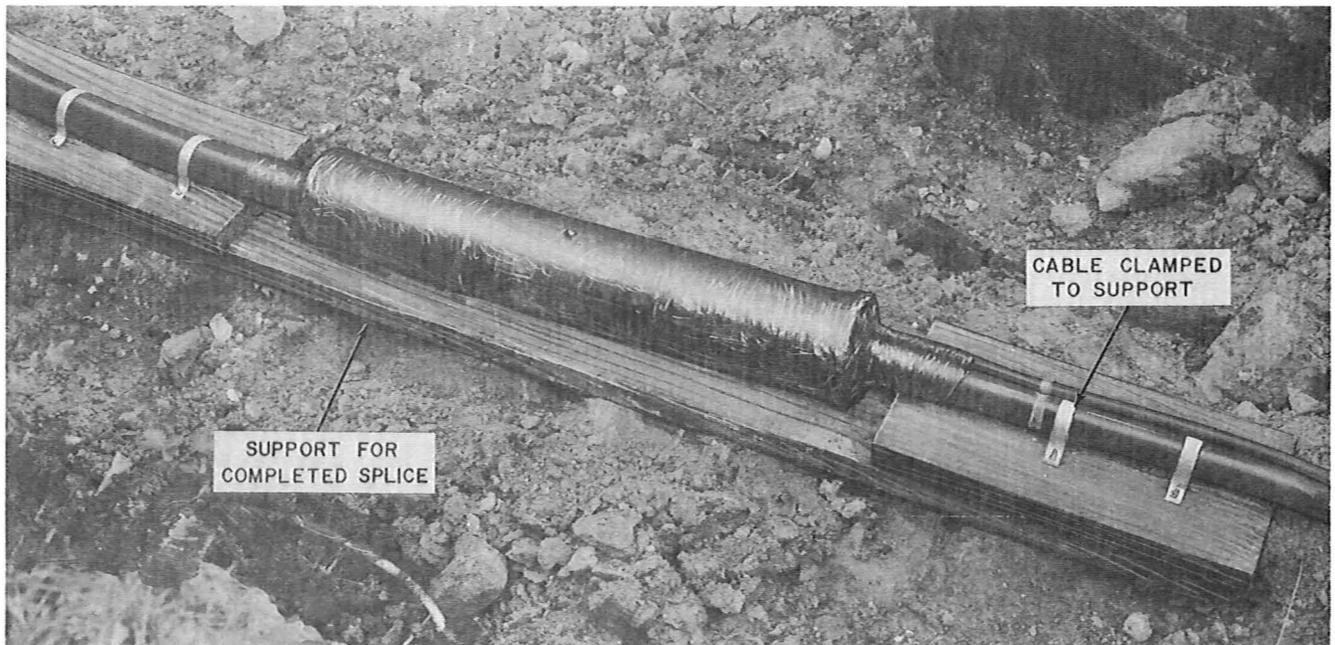

Fig. 24—Completed Splice
10.01 Apply the same mechanical protection to the completed splice as that normally used on the extra strength lead sleeve reinforced with the B Sleeve Liner (Fig. 24).